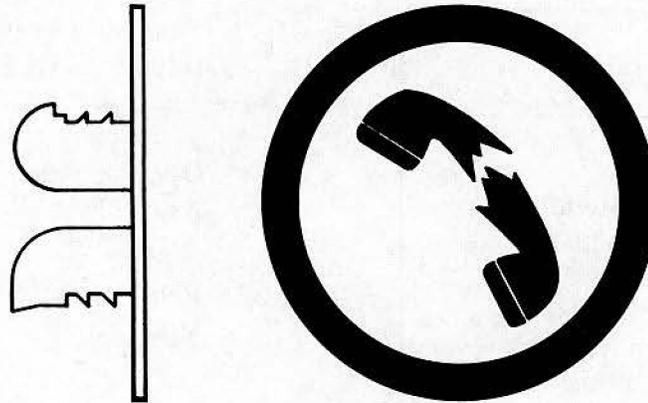

Fig. 4 - QSW1A Out of Service Sign
4.07 If the coin telephone set has been installed, but is not ready for service, place a QSW1A out of service sign in the coin entry slot so that customers cannot deposit coins. When service is established, remove the sign or arrange for the agent or other responsible person to do so. The QSW1A sign, as shown in Fig. 4, is installed by inserting the double pronged projection into the coin entry slot and pressing firmly into place until the sign is flush against the front surface. The sign may be removed by pulling it out of the coin entry slot.